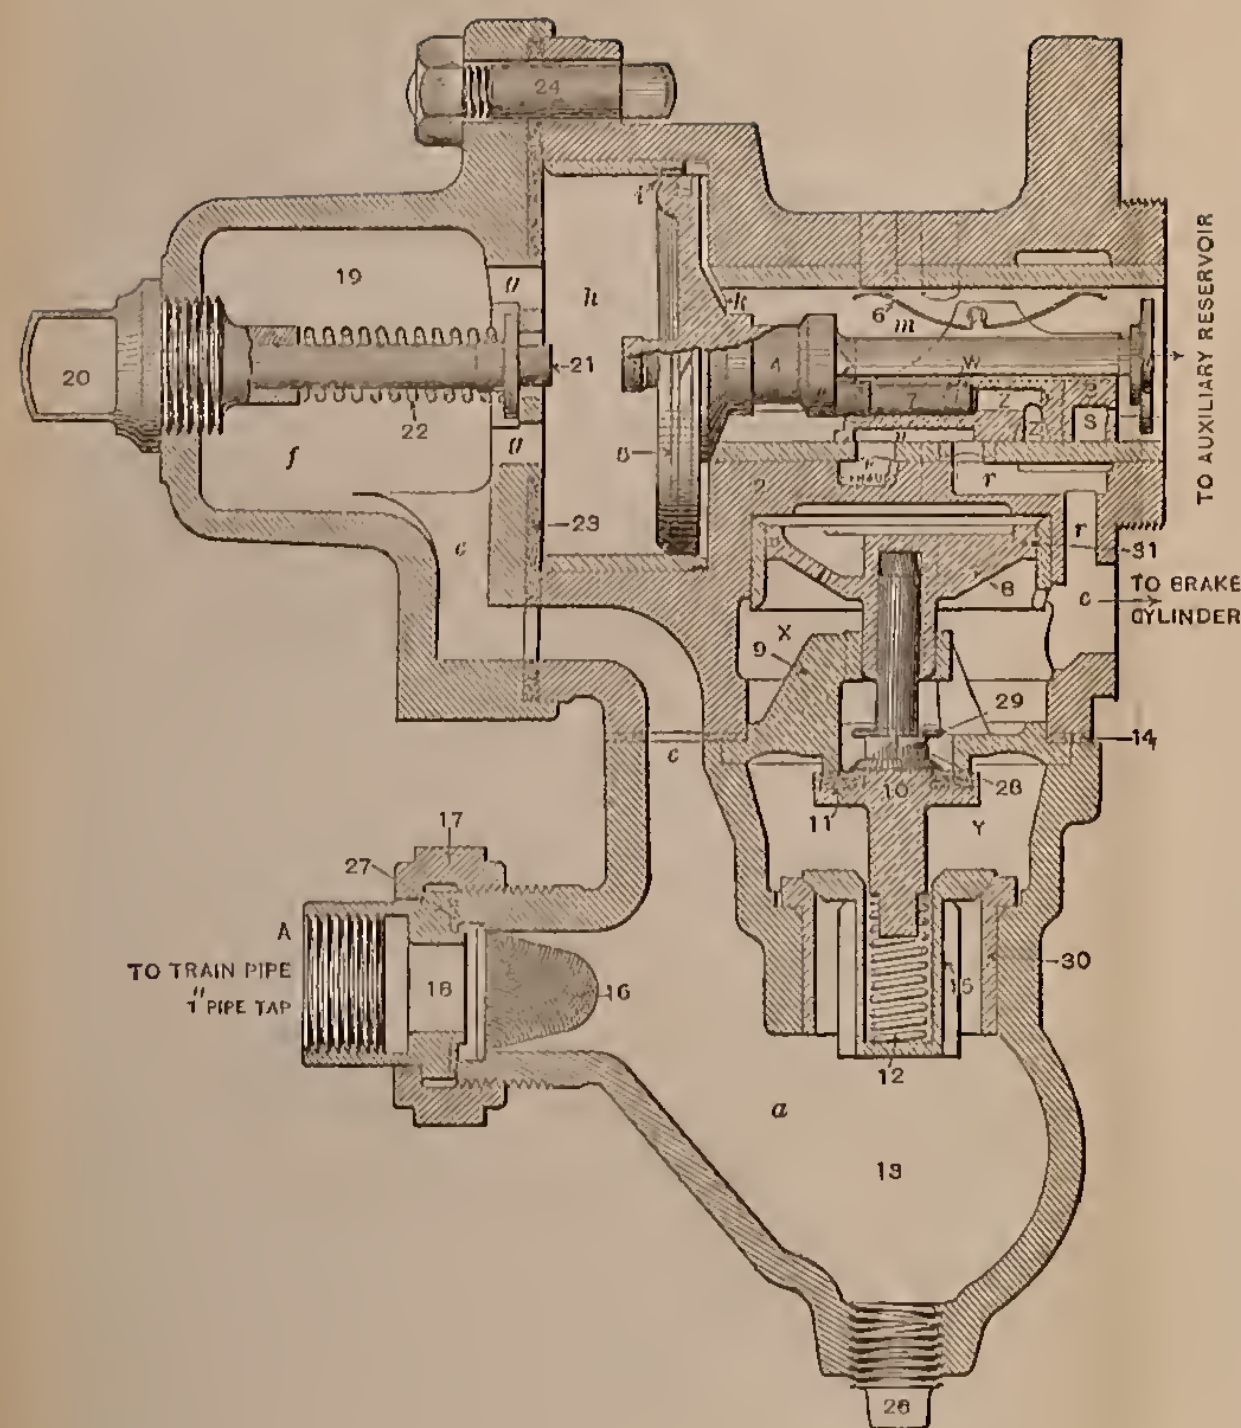

FIG. 5.—QUICK-ACTION TRIPLE VALVE, RELEASE POSITION.
A. The strainer in the train line where the cross-over pipe leading to the triple joins the main train-line, or the strainer 16 in the triple (Fig. 5) being filled with dirt, scale, cinders or oil. Port *i* or *k* might be plugged, the triple might be cut out, or there might be a leak in the auxiliary which let the air out as fast as it came in.
Q. Water sometimes collects in cavity 13 (Fig. 5) of the triple. Where does it come from?
A. A sticky triple or a broken graduating pin. (The one which fastens the graduating valve to the piston stem as shown by the dotted lines, Fig. 5.)
A. A leaky slide valve or a leaky rubber-seated valve (Fig. 5).
A. The rubber-seated valve 10 (Fig. 5) leaking will allow the pressure to leave cavity *Y*. The train-line pressure then raises check 15 and passes through cavity *Y* across the rubber-seated valve, through cavity *x*, ports *c* and *r*, into the exhaust cavity *n* of the slide valve and out to the atmosphere through port *p*. When the brake is applied, port *n* in the slide valve is closed to port *r*, consequently the blow stops.
A. Gasket 14 (Fig. 5) leaking between *e* and cavity *X*, or the gasket leaking between the brake cylinder and auxiliary where the triple is bolted to the cylinder. On freight equipments there is a pipe which runs inside the auxiliary to the brake cylinder; this pipe leaking will also cause a blow.
Q. What effect would the leaking of graduating valve 7 (Fig. 5) have?